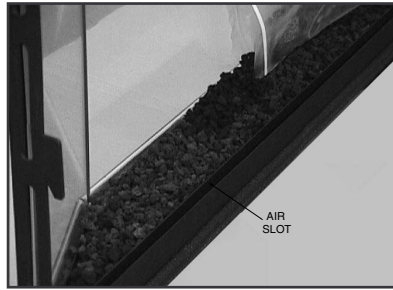

Figure 5BF
8. Place Lava Rock between the Glass and Flange, making sure not to block the Air Slot. See Figure 5BF.